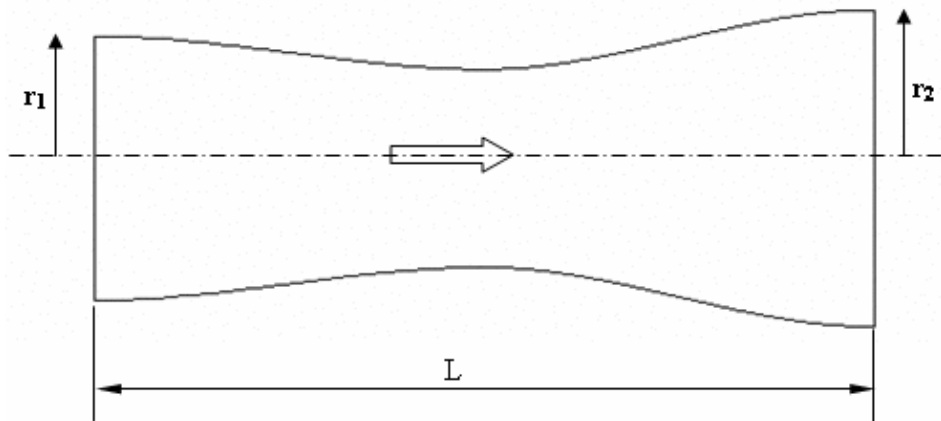

Figure 7.1: Problem Schematic
Figure 7.1 shows longitudinal section of a converging-diverging nozzle, symmetric about the axis. The length of the nozzle (L) is 0.6 m. The inlet radius (r_1) is 0.1 m and the outlet radius (r_2) is 0.12 m. The ratio of throat area to the inlet area is 0.5625. The pressure difference across the nozzle is 0.12 MPa.